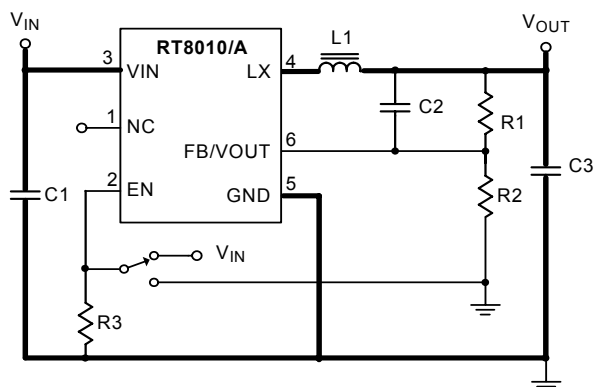

Figure 6. EVB Schematic
- For the main current paths as indicated in bold lines in Figure 6, keep their traces short and wide.